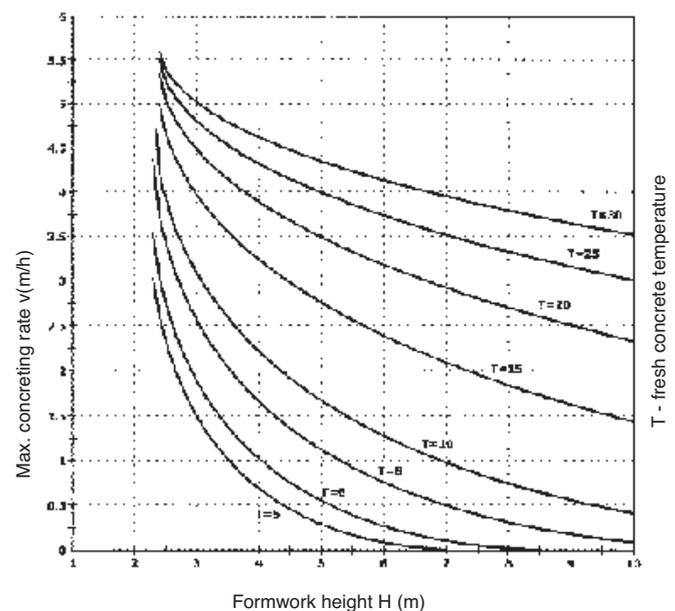

Fig. 9.6
- Fig. 9.6 is for wall concrete casting rate (with the use of MIDI BOX formwork) and concrete without retarders.
2. For a 5.5 m high wall cast in temperature of 10°C without retarders, the value of maximum concrete casing rate read on Fig. 9.6 is 1.5 m/h. In order to obtain an average rate across the whole height of formwork concrete should be cast in 1.5 m thick layers every 1 hour or in 75 cm thick layers every 0.5 hour, or in 50 cm thick layers every 20 min, so as to cast a layer not exceeding 1.5 m in 1 hour. In the extreme case the layer may be 2.0 cm thick but casting may be continued after 1 hour and 20 min.